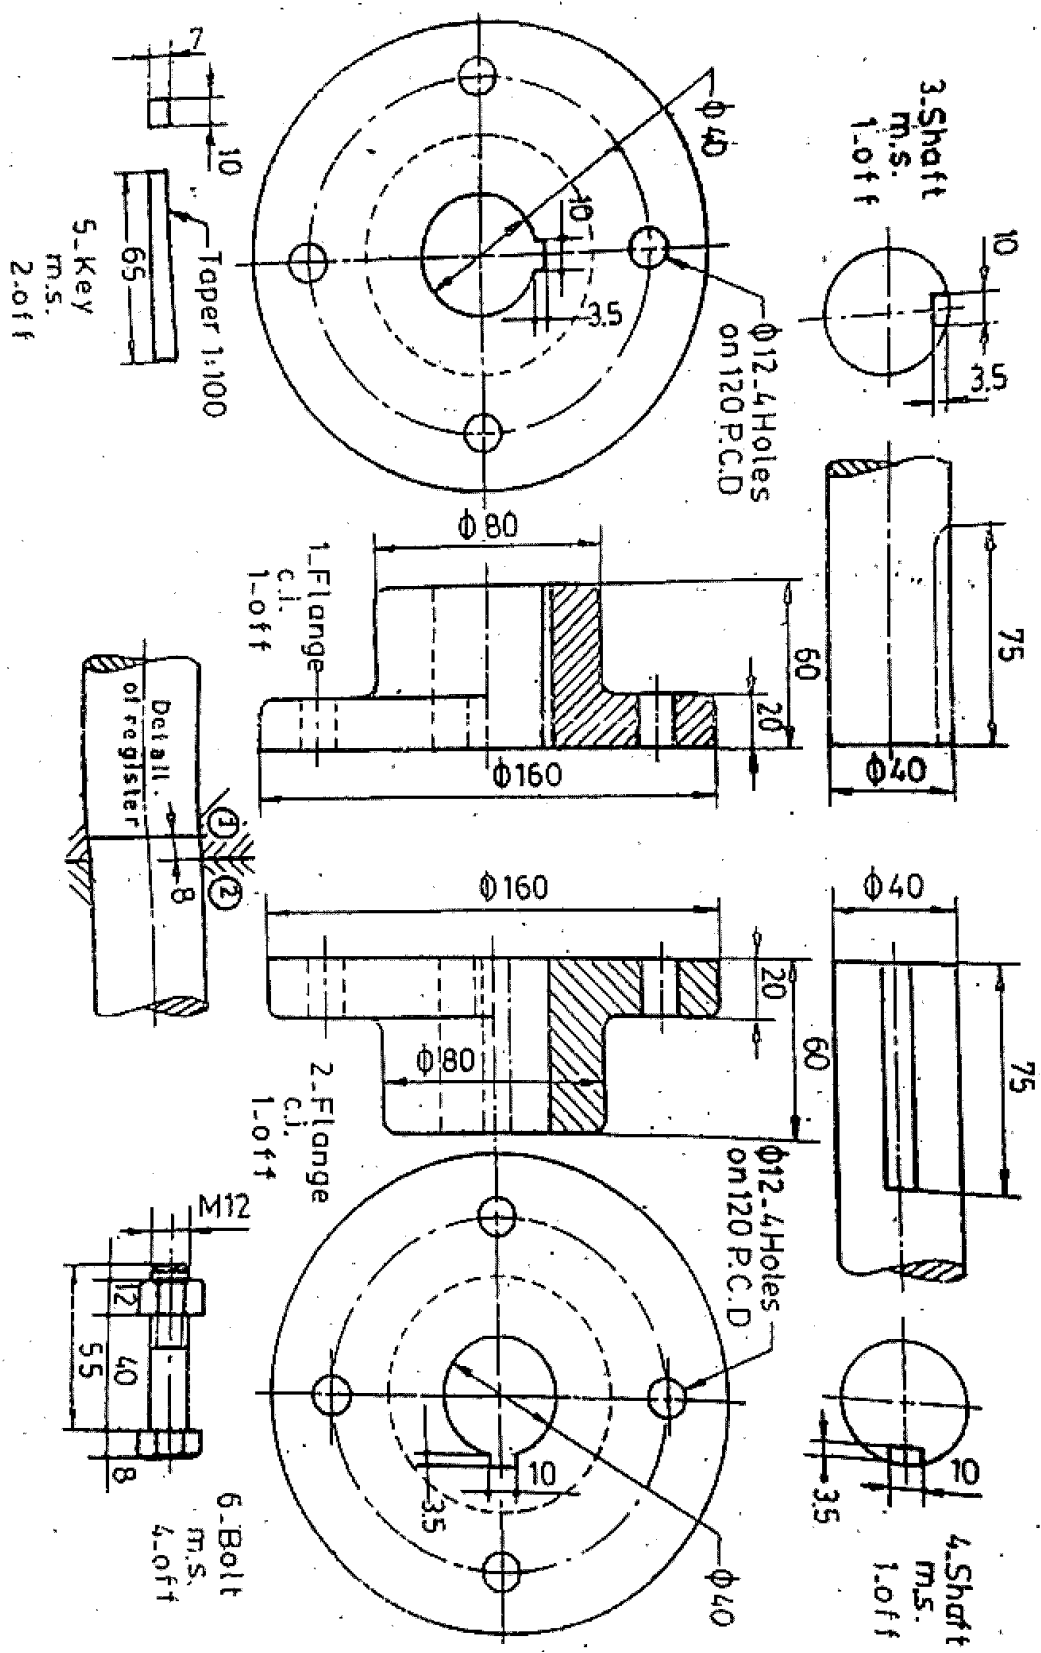

Fig. 2 Flange Coupling (Details)
5. Fig. 2 shows the detail of unprojected type flange coupling. Assemble it and Draw